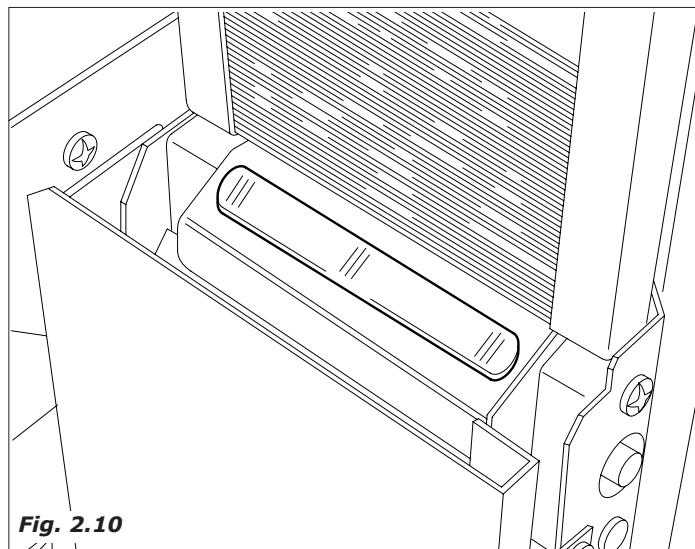

Fig. 2.10
- the geared motor that operates the spoon release device is activated making the spoon fall into the cup. (Fig.2.10).